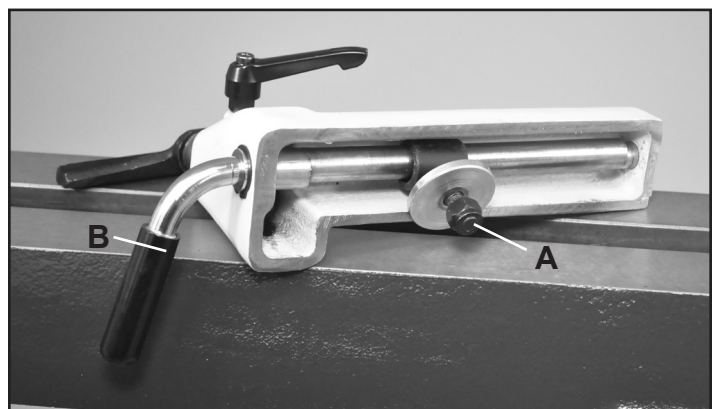

FIG. 9
If adjustments are needed, the clamping pressure can be changed by turning the large Hex Nuts (#32 & 67) that are located under the lathe bed and below the assemblies. This can be done with an adjustable wrench (not included). FIG. 9 shows the tool rest removed from the lathe bed to view the locking mechanism and Hex Nut (A).
1. Loosen the Locking Handle (B) so that there is no clamping pressure being exerted on the lathe assembly.